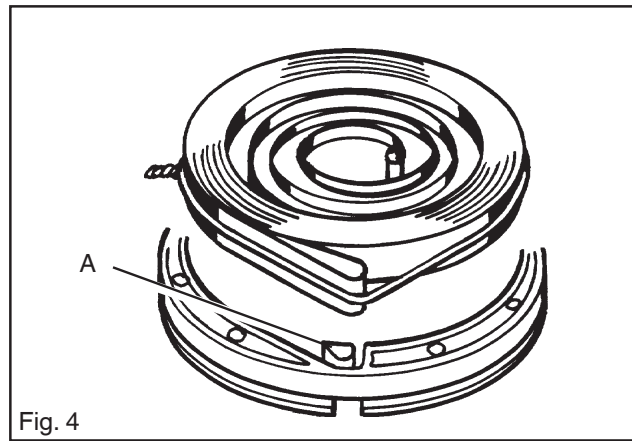

Fig. 4
1. If a new spring is to be fitted, place the new spring with steel wire so that the end loop comes over the peg (A) in starter pulley. See fig. 4.